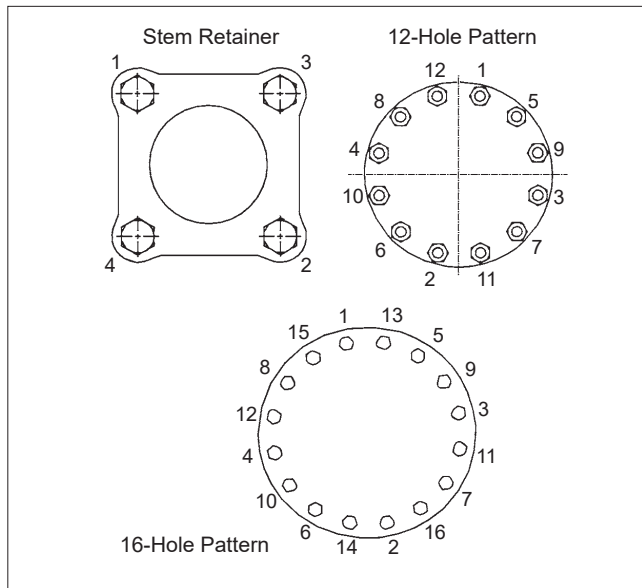

Figure 1.
12. Align the holes of the stem retainer (8) with the tapped holes in the bonnet. Lubricate the four hex head cap screw (13) threads and bottom of the head with Never-Seez® or equivalent. Place the cap screws through the stem retainer flange and thread them into the body. (**Tighten per Table 1 and Figure 1.**)
13. Gently rock the ball to make sure the stem (5) is centered in the ball slot.
14. Place the body gasket (65) in the body groove.
15. Place the remaining seat (7) on top of the ball.
16. Place the body cap (2) over body studs (12) being careful to properly orientate body cap and body as originally assembled by matching orientation marks made prior to disassembly. Take care not to damage body gasket (65) or seat (7) during this operation.
17. Using Never-Seez or equivalent, lubricate the threads and underside of the body stud nuts (16). (**Install and tighten per Table 1 and Figure 1.**)
18. Place the gland follower (9) over the stem so that the beveled side faces up.
19. Place compression plate (10) (inside chamfer down) over the stem (5) and bonnet studs (14). Install bonnet stud nuts (18) on studs (14) and tighten finger tight. If there is weepage past the packing upon installation, "leak-tight" performance may be restored by packing adjustment described in the **MAINTENANCE** Section.
20. Cycle the valve slowly twice to insure permanent position of the ball between the two seats. Tighten bonnet stud nuts (18) 1-1/2 to 2 turns beyond the finger tight condition.